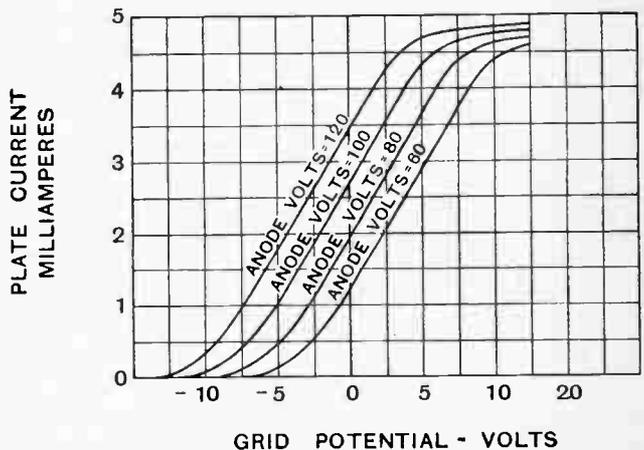
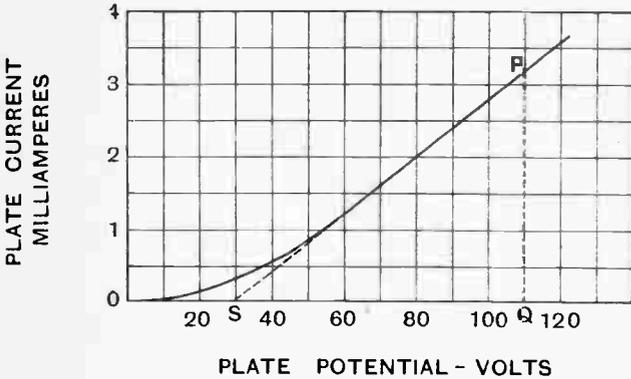

Fig. 2.—Group or "family" of anode characteristic curves for a three-electrode valve.
Fig. 3.—Plate potential—plate current curve of three-electrode valve with grid at zero potential.
In Fig. 2 a number of such characteristic curves is given for a well-known make of receiving valve, and this group or "family" of curves enables us to predict the most important properties of the valve as far as performance is concerned. There is, however, one other very important curve from which the internal resistance of the valve is found, namely, the plate voltage-plate current curve. The value of plate voltage to which each of the curves of Fig. 2 corresponds is indicated on the curve itself.
nearly parallel. This means that for any value of plate voltage within wide limits the change of plate current is the same for a given small change of grid voltage, provided operation takes place on the straight part of the corresponding curve in each particular case. Note that operation on the straight part of any of the curves gives the greatest change in plate current for a given change in grid voltage. We see at once from Fig. 2 that increasing the plate voltage does not materially alter the shape of the curve, but merely moves it bodily to the left.
ated on the steepest part of any one of the anode characteristic curves of Fig. 2. It is a fairly large number, and one naturally asks: Where does the energy go when the plate current flows through this resistance? It is dissipated at the plate as heat which is produced by bombardment of the plate by the electrons. In fact, if an excessive positive potential is given to the plate it will become red hot. Transmitting valves often run under normal operating conditions with the plates a dull red heat.
Suppose that we have 80 volts on the plate of the valve, and that the grid voltage is changed from zero to -1 volt. From the 80-volt curve in Fig. 2 we see that this causes the plate current to decrease from 1.95 mA to 1.62 mA. Now, referring to the curve of Fig. 3, we find that the change of plate voltage required to decrease the current from 1.95 to 1.62 milliamps, is 8.7 volts. Thus changing the grid potential by one volt has the same effect as changing the plate potential by 8.7 volts. A small change in grid potential produces the equivalent of a comparatively large change of plate voltage, and this is the property which accounts for the amplifying qualities of a three-electrode valve. The number 8.7 which we have just found is called the "amplification factor" or "amplification constant" of the valve, and is usually denoted by μ . In general terms we may define the amplification factor of a valve as the ratio of the change of plate voltage necessary to bring about a given change of plate current, to the change of grid potential required to produce the same change of plate current, or the number of volts by which the plate potential must be raised to maintain the current constant when the grid potential is lowered by one volt. The amplification factor μ is the greatest possible amplifica-
Now, for a constant grid potential of zero with respect to the negative leg of the filament, e is a constant quantity except for very low values of plate voltage, and therefore a curve showing the relation between the plate potential and plate current with the grid voltage kept at zero will be a straight line except for low values of plate voltage, and from this straight-line portion we are enabled to find the internal resistance of the valve. In Fig. 3 this particular curve is given for the same valve whose anode characteristic curves we considered above; the filament current was kept constant and the grid voltage kept at zero during the measurements. Now from equation (1) above it is clear that the resistance R_a depends alone on the slope of the straight portion of the curve. To find the internal resistance of the valve, then, produce the straight portion of the curve down to meet the horizontal axis at S; draw any vertical line PQ from a point P on the curve to meet the horizontal axis at Q. Then the ratio of SQ in volts to PQ in amperes gives the internal resistance of the valve in ohms. From the figure, $SQ = 80.7$ volts and $PQ = 3.2$ mA or $\frac{3.2}{1,000}$ amps.
For the particular valve we have under consideration we find from Fig. 2 that when the plate potential is 80 volts the plate current is 1.95 milliamps for zero grid potential, and we have seen that $R_a = 25,200$ ohms. Substituting these values in the above equation we get
voltage $V_s = 31$. This is a constant number provided the valve is operated on the straight portion of any of the anode characteristic curves of Fig. 2. Thus, for our valve, equation (2) becomes
To check this equation for truth make $V_a = 100$ volts and $V_g = -1$ volt, so that $\mu V_g = -8.7$. This gives a plate current of $I_a = (100 - 31 - 8.7)/25,200 = 2.39$ milliamps. Now, looking up the 100-volt curve of Fig. 2 we